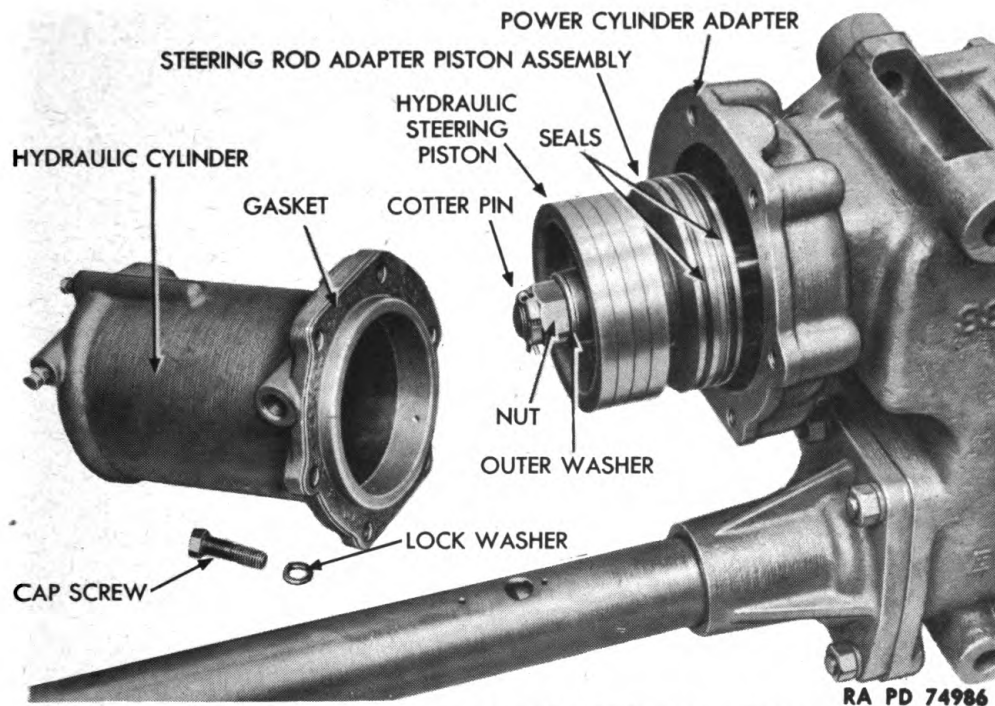

Figure 9 – Steering Hydraulic Cylinder – Removed
a. **Description** (fig. 9). The steering hydraulic cylinder is a hollow steel casting that is secured to the top of the steering gear housing. Oil lines connect the control valve to the top and bottom of the cylinder. The hydraulic steering piston operates inside the cylinder, and the piston is secured on one end of the piston rod. The opposite end of the piston rod is secured to a slide block in which the steering lever bearing operates. The cam stud is mounted on roller bearings in the opposite end of the lever and engages the cam grooves.
a. Disassemble Piston (figs. 9 and 16). Remove cap screws and lock washers that hold steering hydraulic cylinder, and remove cylinder with gasket. Remove cotter pin and nut from piston pin. Then remove piston pin outer washer, piston, piston pin inner washer, and steering rod adapter piston assembly from piston pin. Remove two steering power seals from piston, then remove oil seal.
a. **Assemble Piston** (figs. 9 and 16). Install two steering power and oil seal rings on piston. Install steering rod adapter piston, inner washer, hydraulic steering piston, and piston pin outer washer on piston pin. Install nut and cotter pin on piston pin. Install cylinder with gasket on steering housing, and fasten with cap screws and lock washers.